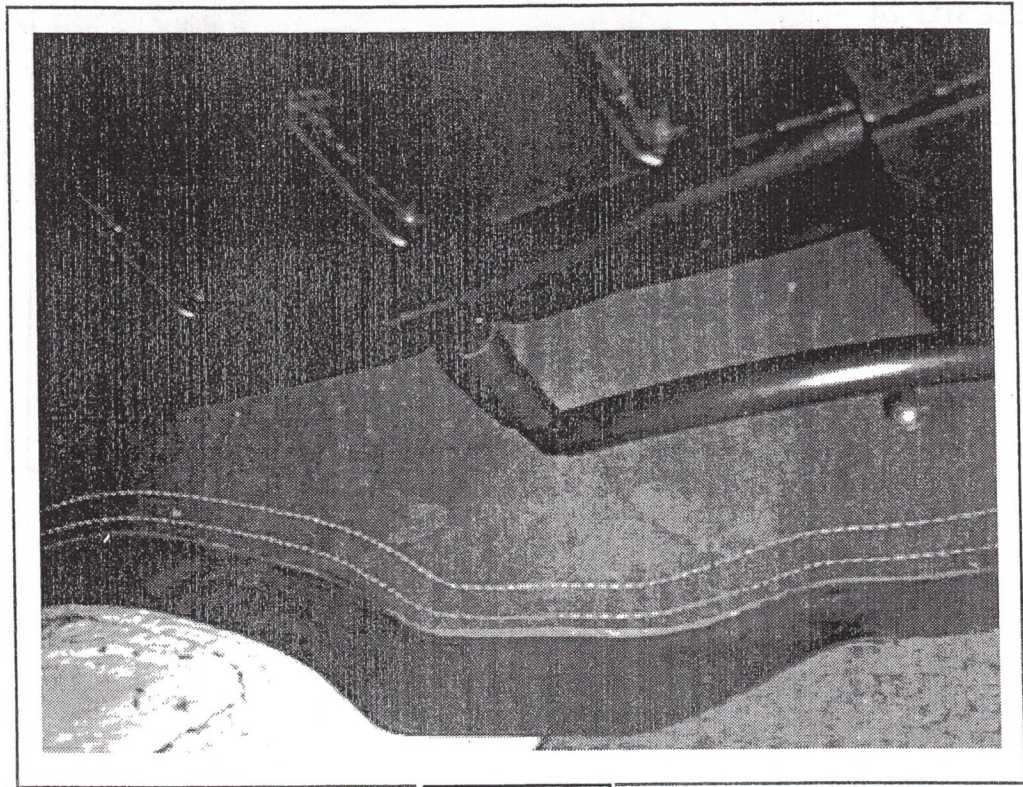

FIGURE 10
19) Construct a condensation drain hose assembly. This hose assembly will exit the firewall through the lower of the two holes previously occupied by the O.E. heater's coolant ports. Build the hose assembly with the two plastic elbows and sections of  $\frac{1}{2}$ " diameter drain hose cut-to-fit. Press the hose assembly onto the evaporator's drain port. (See Figures 10, 11 and 14).